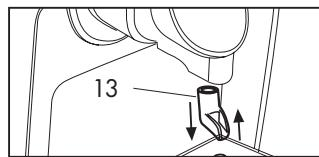

Fig. 20
Remove the nozzle (13) from its seat by pulling it downwards. Wash it thoroughly and remove any residues of coffee. Once the nozzle is clean, push the nozzle back into position as far as it will go (Fig. 20)